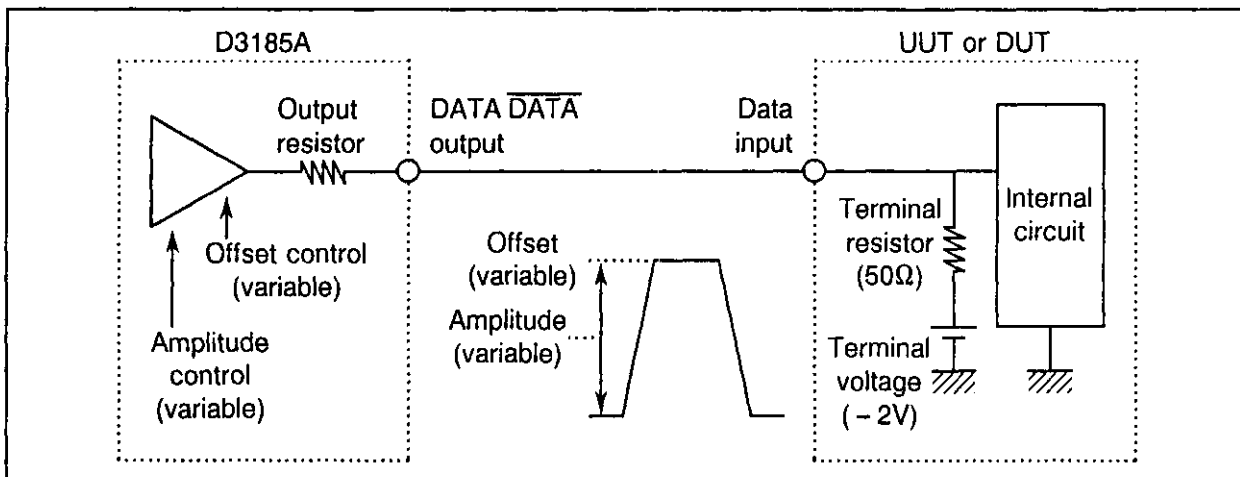

Figure 4-2 With DATA  $\overline{\text{DATA}}$  Output Used, -2V Termination and ECL Level
- (2) If the UUT or DUT data input terminator voltage is -2V and at ECL level (See Fig. 4-2.)